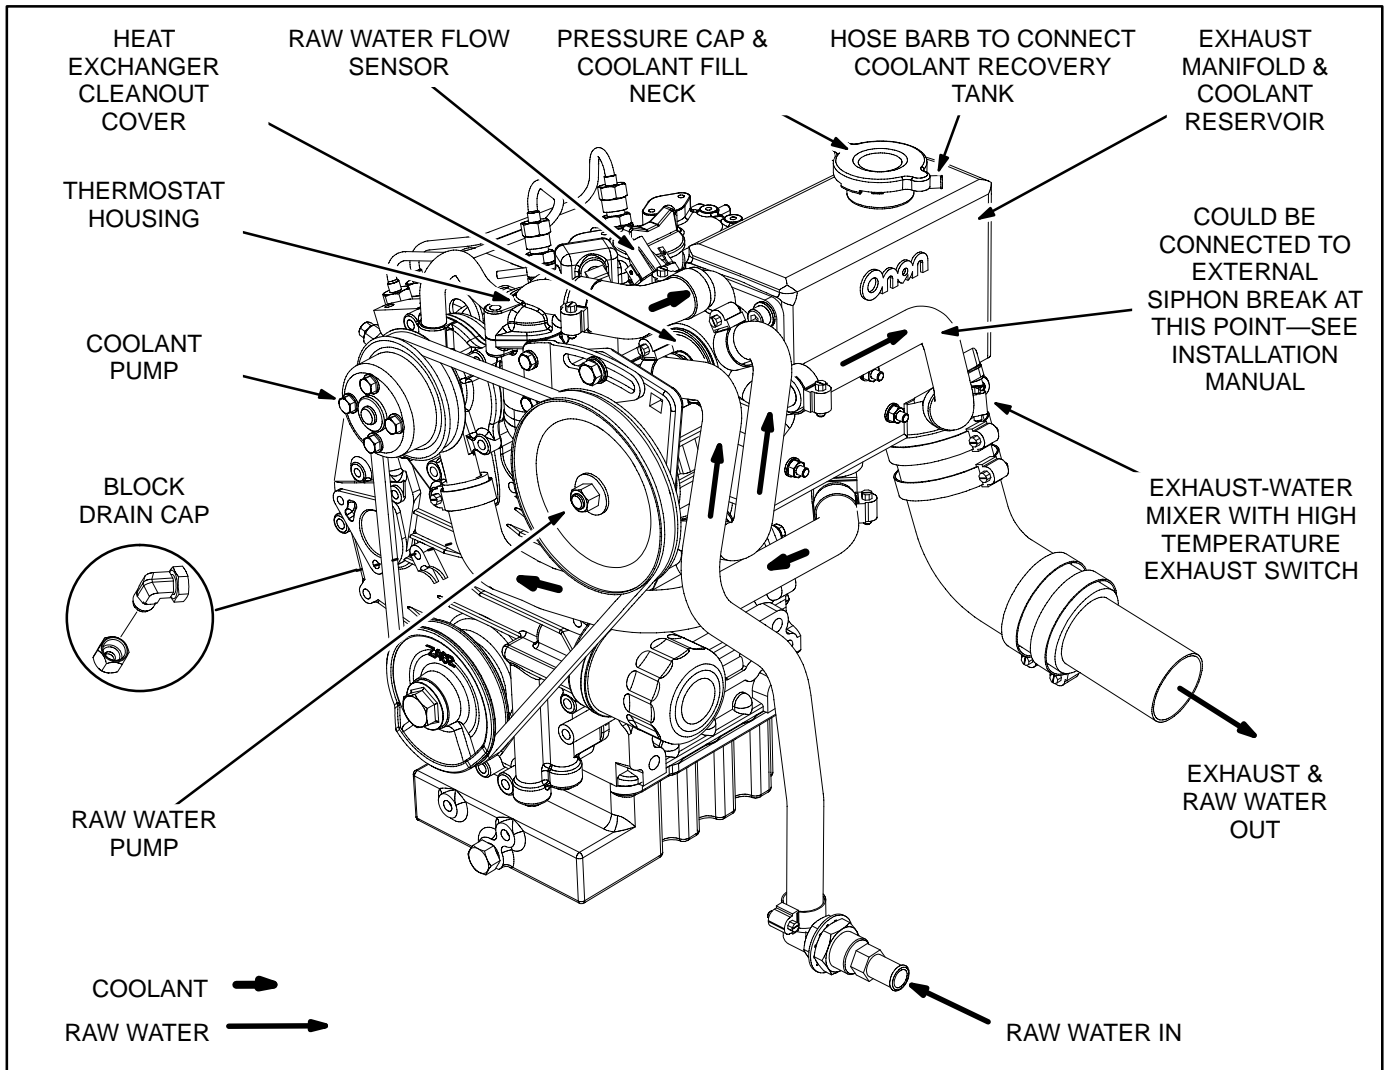

FIGURE 3-5. ENGINE COOLING SYSTEM
Refer to Figure 3-5. The engine is cooled by a pressurized, closed-loop liquid cooling system. Coolant is pumped through passages in the engine block, head and exhaust manifold. The exhaust manifold also serves as the engine coolant reservoir.
2. Drain the exhaust manifold/coolant reservoir by disconnecting the hose at the coolant pump inlet (Figure 3-5) and twisting it down into a container.
3. Drain the block by removing the cap on the drain fitting on the left side of the block (Figure 3-5). Use an 11/16 inch socket on a swivel and 12 to 18 inch extension. To catch the coolant and direct it into a container, insert the socket and extension through a piece of hose large enough to fit over the socket but shorter than the extension. The hose will catch the coolant as the cap is being unscrewed.
A siphon break is installed when the exhaust-water mixer (Figure 3-5) is below the water line. If of a spring-loaded valve design, check for free movement of the plunger. Replace the device if the plunger does not move freely or the body is encrusted with deposits from leakage past the valve seat. If of the bleed-vent type, check that the vent hose is properly connected on both ends. If the vent is connected to a through-hull fitting, check for normal water flow whenever the engine is running. See the Installation Manual for more information regarding siphon breaks.